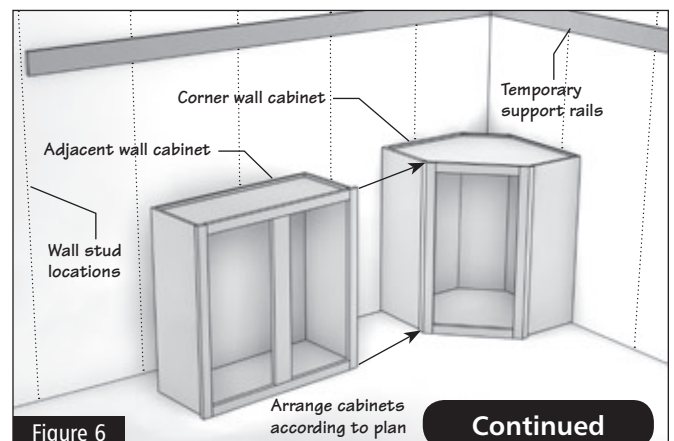

Figure 6
2.3 One by one, align the remainder of the cabinets and fillers in position on the floor using the plan provided by the designer. (Figure 6)